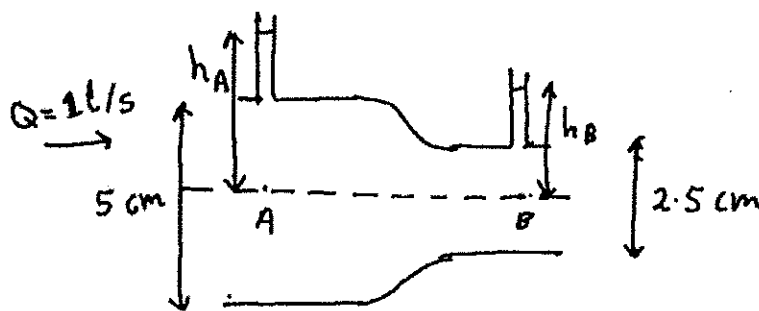

Figure 1
1) A pipe with circular cross-section has a smooth change of diameter from 5 cm to 2.5 cm between points A and B, as shown in Figure 1. As the change in diameter is smooth it can be assumed that there are **NO ENERGY LOSSES** when water flows from A to B.